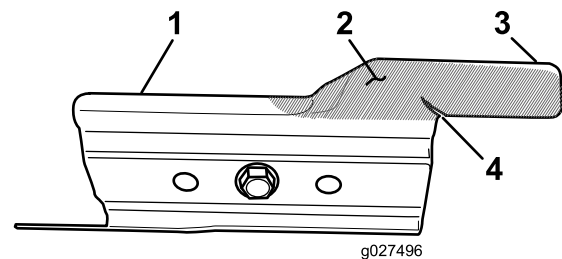

Figure 24
Carefully examine the accelerator for excessive wear (Figure 24). Because sand and abrasive material can wear away the metal (especially in the area shown as item 2 in Figure 24), check the accelerator before using the machine. If you notice that a tab on the accelerator has been worn down to a sharp edge or there is a crack, replace the accelerator; refer to Removing the Blade (page 21).